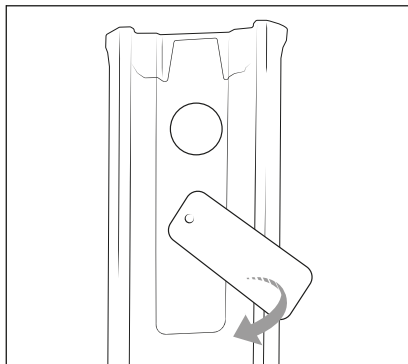

Fig. 6
- 3) Grip the closing tab of the fresh water tank **6** with your fingers and pull it upwards out of the filler opening of the fresh water tank **6**. Press the closing tab to the side (see Fig. 6).